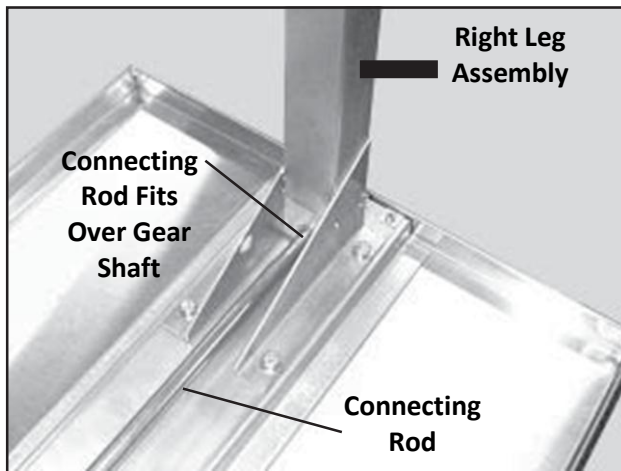

Figure 2-5
5. Push the connecting rod onto the gear shaft on the **RIGHT** leg assembly (installed) with the “flat” on the rod aligned with the flat on the gear shaft (Figure 2-5). Push the rod all the way onto the shaft.